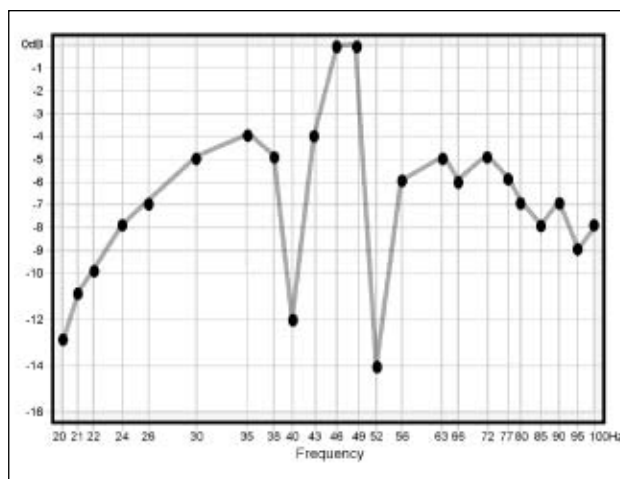

Figure 19. Example of two narrow dips
1. Select a new test position: Cue the test track corresponding to the center frequency of the dip. In the example in Figure 19 you would play Tracks 14 (52Hz) and 18 (40Hz). Press **Play** ►. You will see a reading very close to what you had before. Now slowly move the RSLM around the area, if possible remaining within about a foot of the original test point. As you move the RSLM, watch the bar graph. You will observe large level fluctuations. Find a location for the subwoofer or a test location that raises the response at these frequencies. You may find it helpful to move the RSLM vertically. Dips can be oriented in any axis. The position that restores the level to about that of the adjacent test points is your new test position.